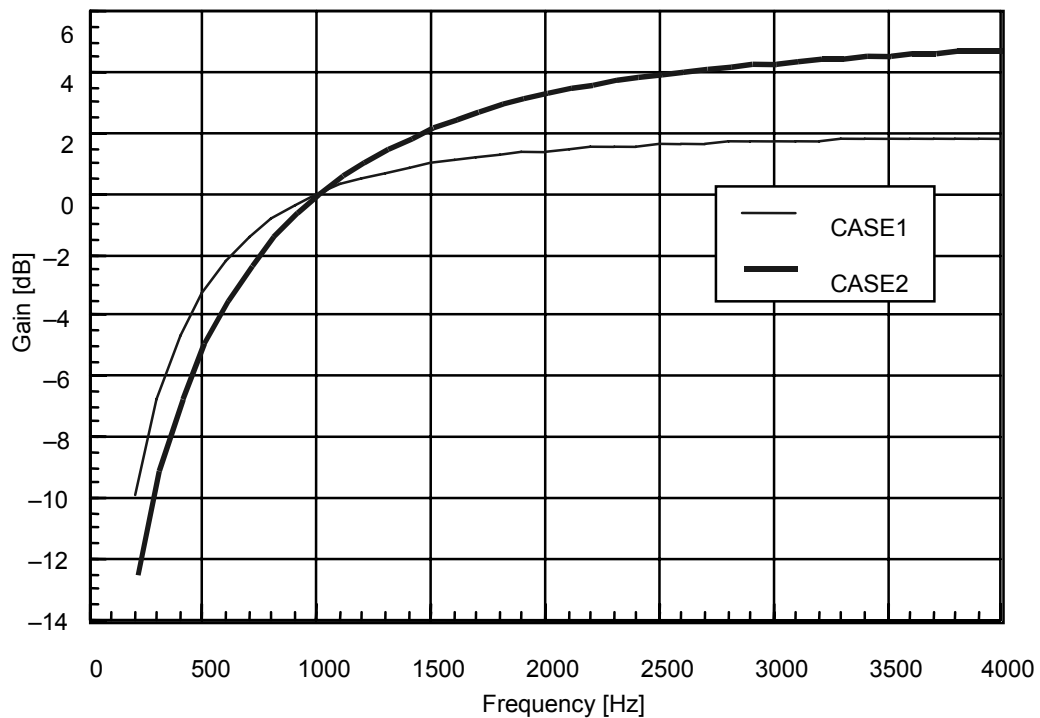

Figure 6 Frequency Response of Slope Filter
- B1..... The type of slope filter select; 0/CASE1, 1/CASE2, refer to Figure 6.